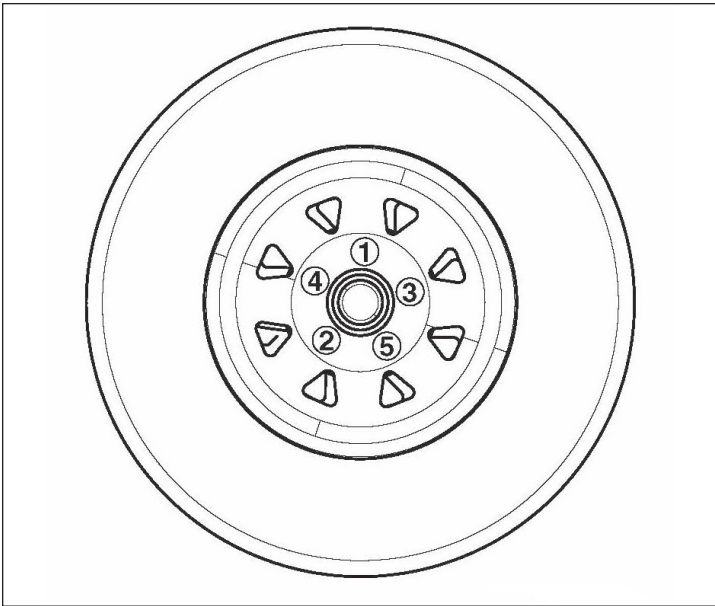

Figure 15
6. When torquing lug nuts, always use a criss-cross pattern (Figure 15).